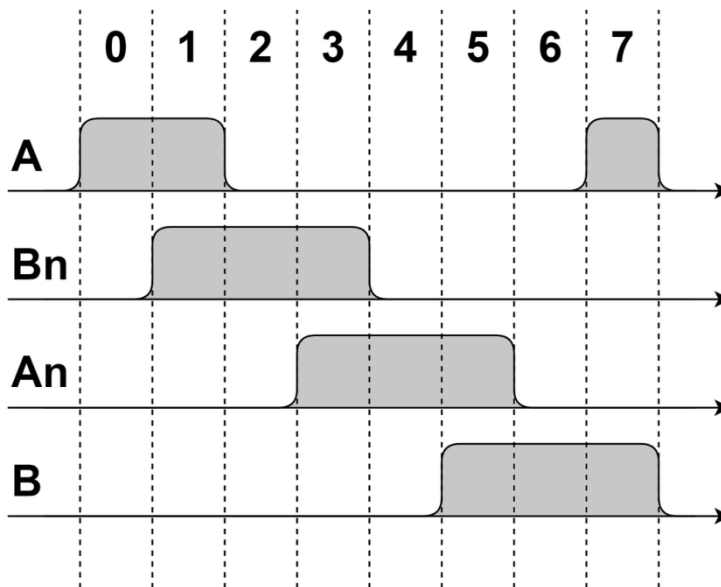

Fig. 2: Signals controlling a unipolar stepper motor in half-step mode
- **HalfStepControl** – a combination circuit that generates stepper motor control signals based on the CntMod8EnDir counter value; implement the module based on the waveform in Fig. 2.